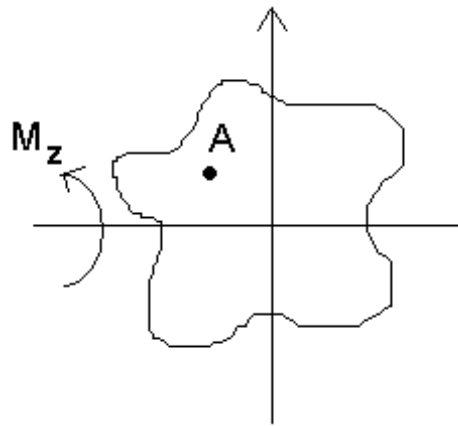

Figure 1:
1. An unsymmetrical cross-section is subjected to a couple  $M_z$  in vertical plan. Show in figure 1 that the stress at point A, of coordinates  $y$  and  $z$  is  $\sigma_A = \left[ \frac{I_y Y - z I_{yz}}{I_y I_z - I_{yz}^2} \right] M_z$